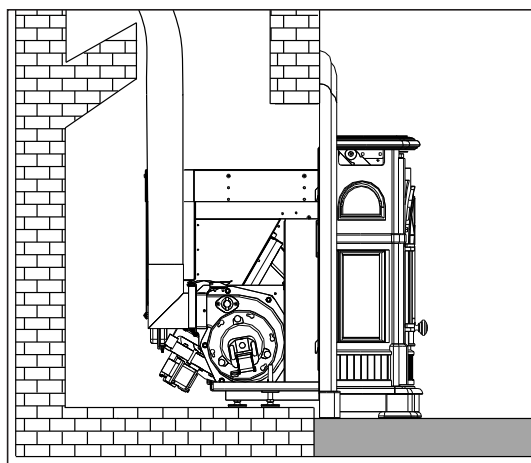

Figure 8: Masonry fireplace installation with skirt.
To change the height of the hopper up or down, remove the seven (7) T-20 screws, three (3) on each side and one (1) on the back. The screw placement is shown Figure 8. Move the hopper assembly to the required setting and replace the screws. When the hopper back is in place it is recommended that silicone is used to seal the bottom lip of the hopper back and sides.